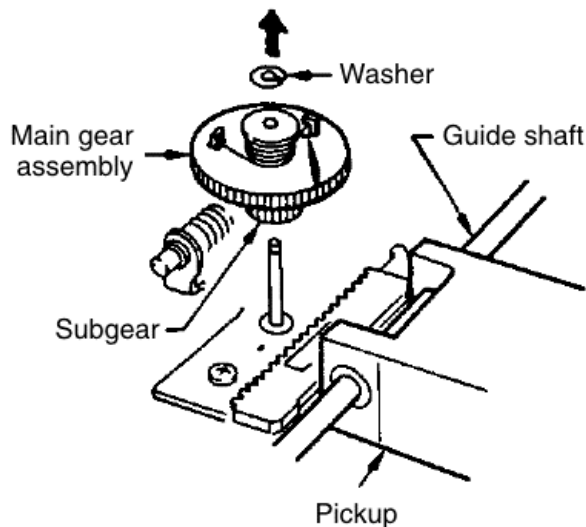

FIGURE 30-30 Removing the "c" washer of the main gear assembly so that the guide shaft can be removed.
- 2** Remove the subgear and main gear assembly by removing the C washer (Fig. 30-30).